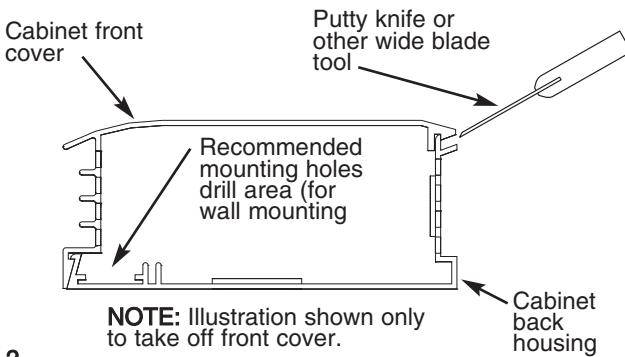

Fig. 2
16. To avoid damaging heater, do not use a screw driver to separate front cover from back housing. Use only a putty knife as shown, see Fig. 2
2. Remove front cover by laying the heater on its back and inserting a putty knife (or other thin, wide blade tool, 1" [25mm] wide minimum) approximately 6" (152mm) from the end of the heater and prying up as shown in Fig.2. This will spring the snap lock closure open. Repeat as required down the length of the heater until the front cover completely disengages from the heater back.
4. Drill the required size mounting holes in the heater housing (See Fig. 2 for recommended mounting hole location.)
5. Drill the required size mounting holes in all the heater housings. (See Fig. 2 for recommended mounting hole location.)